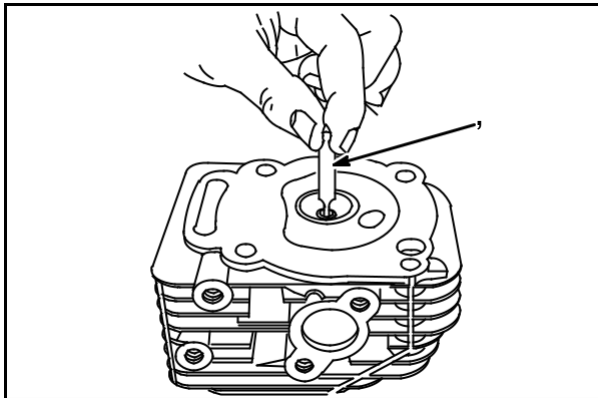

Fig. 10
Check valve guide bushings for wear using Plug Gauge (2) #19382, Fig. 10. Replace valve guide if gauge enters guide 1/4" (6 mm) or more.